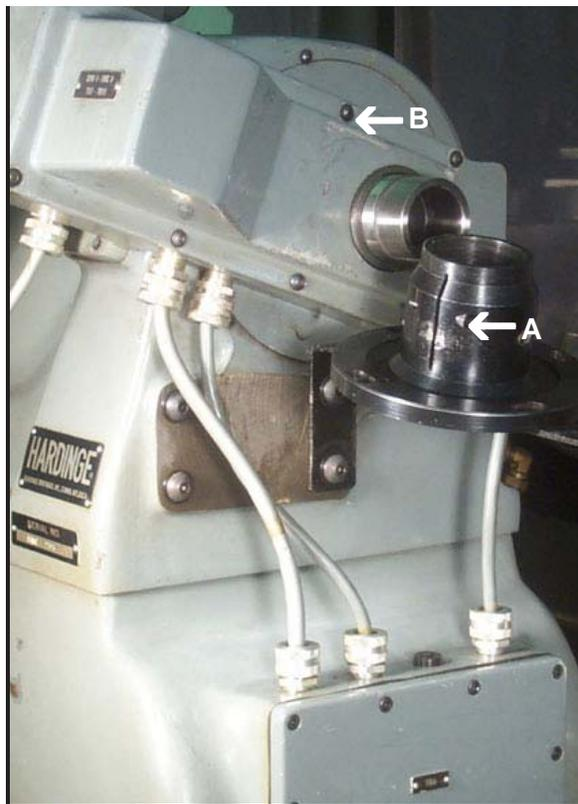

Figure 2.5.3
Now remove the collet closer back plate (B). Loosen (2) locking screws (see Figure 2.5.3 - A). With the spindle lock button engaged, turn the collet closer back plate counterclockwise to remove it.